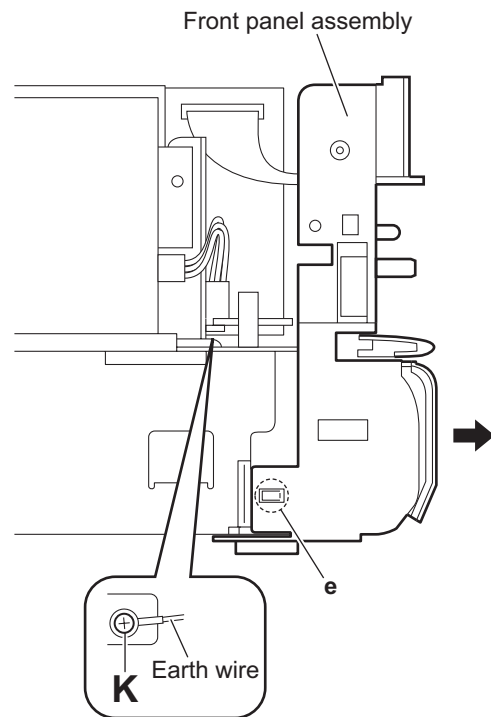

Fig.9
- (5) From the left side of the main body, remove the screw **K** and remove the earth wire. (See Fig.9.)
When attaching the screw **K**, attach the earth wire with it. (See Fig.9.)